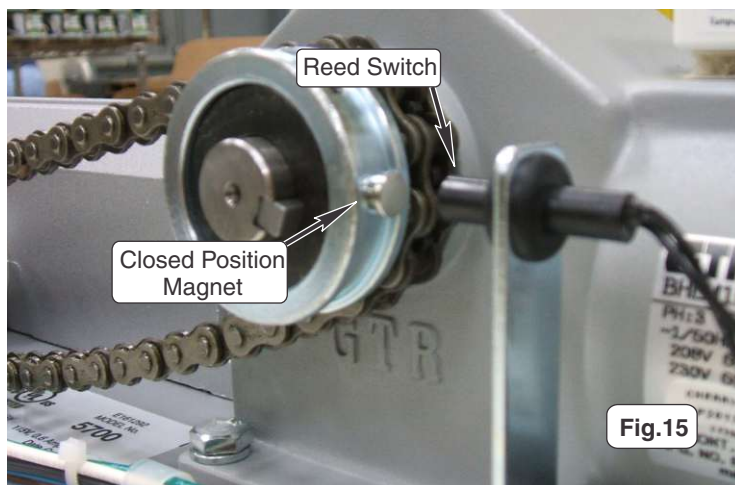

Fig.15
20. With door closed, slide Closed Position Magnet so it aligns with the Reed Switch. See fig. 15.